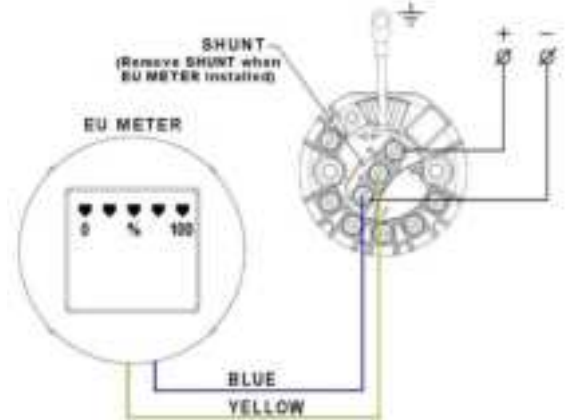

Figure 14: Installation with EU Meter
- If an EU meter is used, wire according to Figure 14